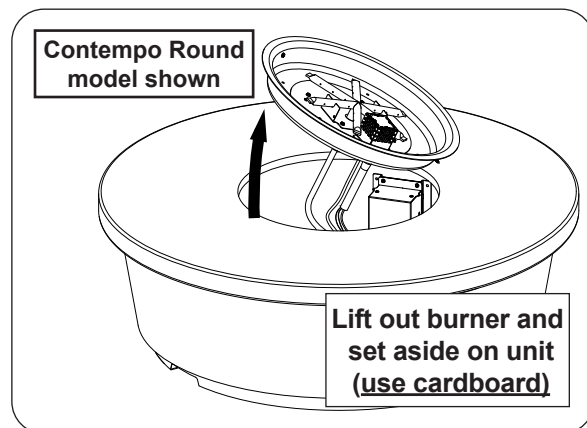

Fig. 55-1 Gain access to interior (if needed)
1. The burner will need to be partially removed. Prior to removal, rest cardboard over the surface of the table top (to prevent damage to the finish when the burner is set aside on the unit). Remove all media. Use a  $5/16$ " nut driver to partially unfasten the 2-4 screws found on the burner assembly. Then carefully lift out the burner and set it off to the side. See Fig 55-1.